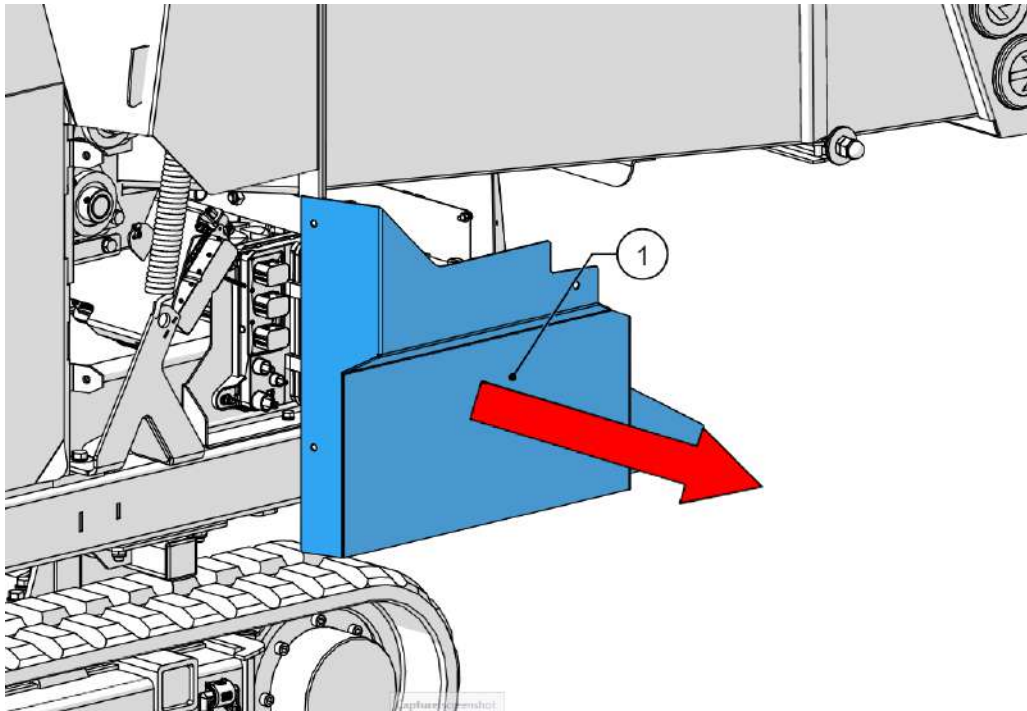

Figure 59 - Remove side panel
4. Remove the side panel (1, Figure 59).